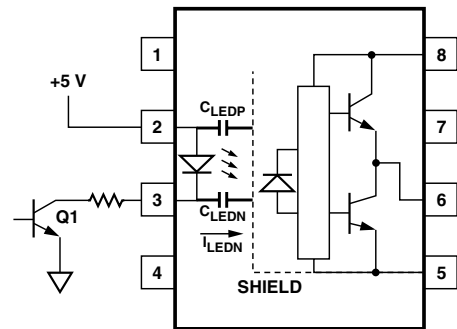

Figure 24. Not Recommended Open Collector Drive Circuit.
Step 1: Calculate R_g minimum from the I_{OL} peak specification. The IGBT and R_g in Figure 24 can be analyzed as a simple RC circuit with a voltage supplied by the HCPL-314J.
The open collector drive circuit, shown in Figure 24, can not keep the LED off during a $+dV_{CM}/dt$ transient, since all the current flowing through C_{LEDN} must be